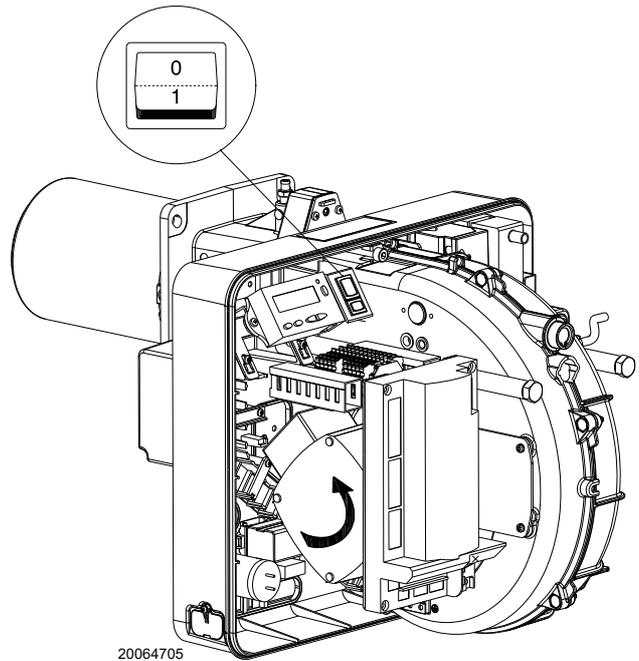

Fig. 32
Close the thermostats/pressure switches and turn the switch of Fig. 32 to position “1”.
As soon as the burner starts up, go in front of the cooling fan of the fan motor and check it is rotating anticlockwise. See Fig. 32.
- place the switch of Fig. 32 in position "0" and wait for the control box to carry out the switch-off phase;
The burner is in the heat request waiting mode, or the selector "0-1" (Fig. 32 at page 32) is in the "0" position.